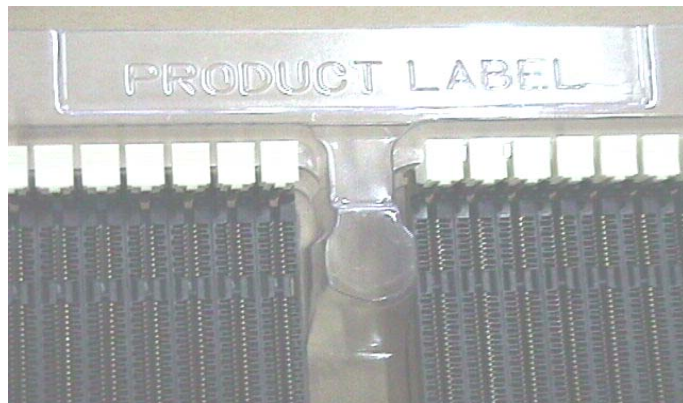

图 1
5.1. Load connectors all oriented same way with extractor facing up into tray(see: figure 1).
如图1所示放产品入TRAY中，PCB板退出器朝上。